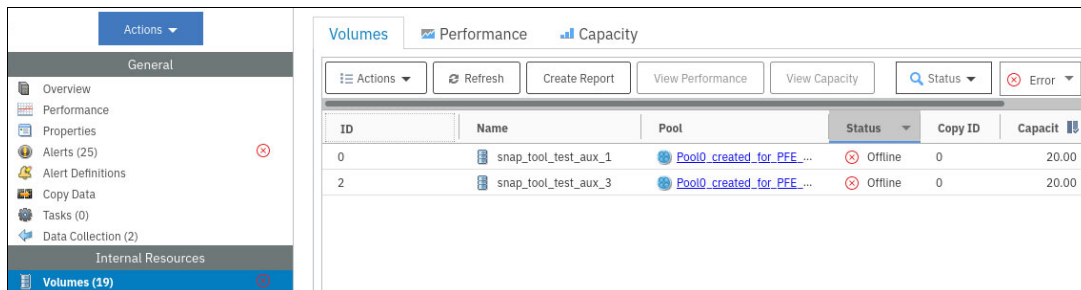

Figure 9-77 Offline volumes
Clicking **Volumes** reveals the offending volumes, as shown in Figure 9-77 on page 620.
- ▶ **View List:** Similar to IBM Spectrum Control, as shown in Figure 9-77 on page 620.